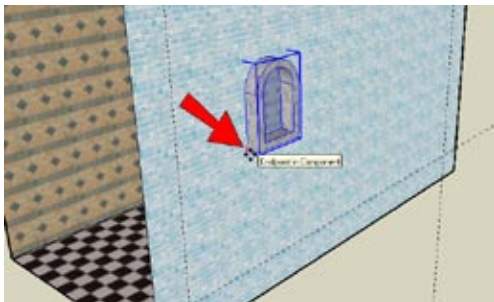

Figure 1-23
5. You can now move the window into place. Select it, activate Move, and for the first move point, click the window's lower-left corner, where the back of the window meets the wall (Figure 1-23).